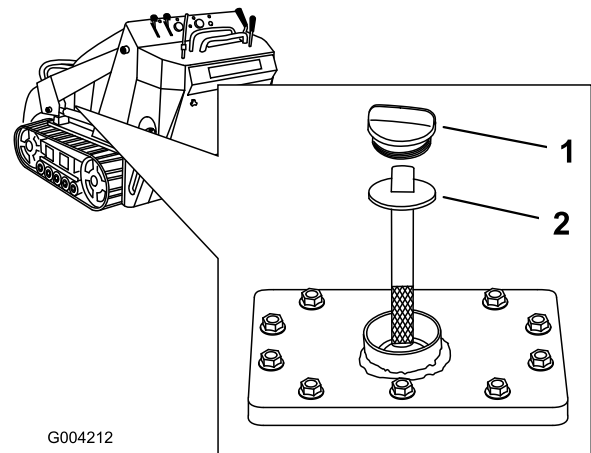

Figure 49
5. Remove the hydraulic tank cap and dipstick (Figure 49).